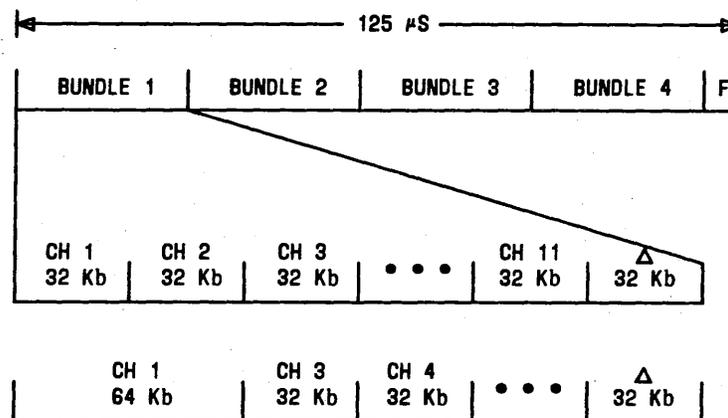

Fig. 6—Bundle Format
**2.06** The maximum capacity of each bundle is 11 compressed channels plus a delta channel for signaling. If signaling is not used on any channel in the bundle, the bundle has a capacity of 12 channels. When the bundle signaling mode is used, each compressed channel is coded at a full 32 kb/s. Each channel that is transmitted uncompressed takes the place of two compressed channels (Fig. 6).